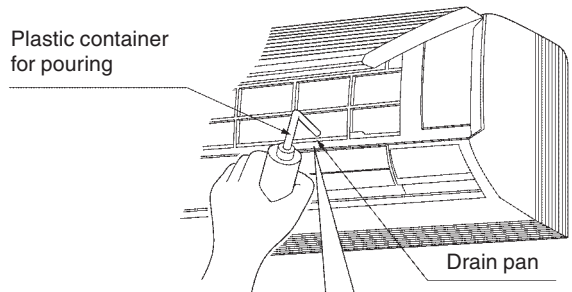

Fig. 19
(2) Make sure the drain works properly.
- After drain work is complete, perform a drain check by opening the front panel, removing the air filter, pouring water into the drain pan, and making sure the water flows smoothly out of the drain hose. (Refer to Fig. 19)